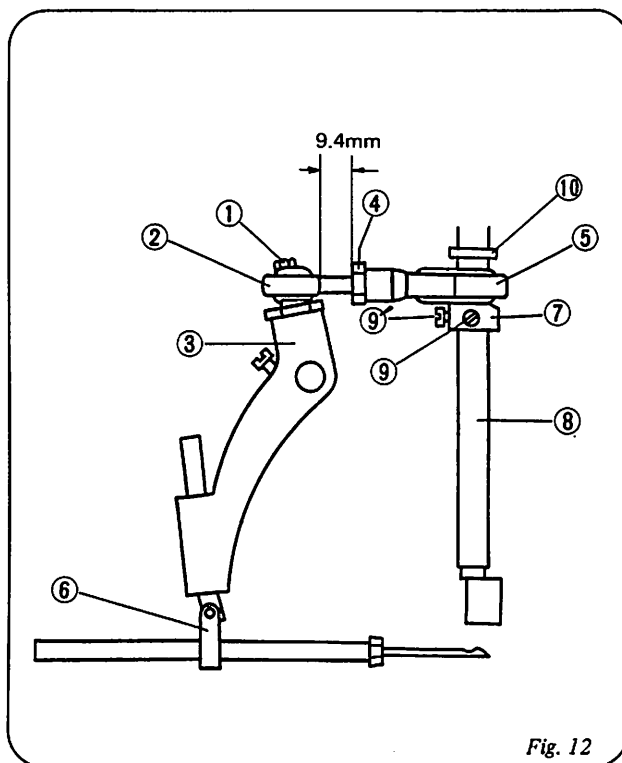
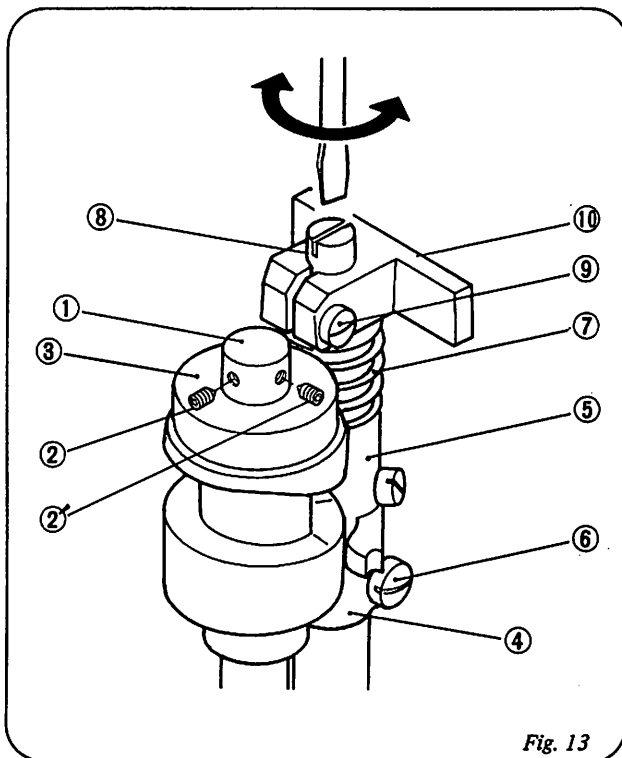

Fig. 12
Fig. 13
For replacement or adjustment of Ball Rod, refer to Fig. 12.
The position of Needle is adjusted so that the distance between the point of Needle (at its highest position) and Throat Plate is 13 mm, after loosening screw on Needle Bar Connection Assembly ⑥ in Fig. 12.
- ① Screw 11/64S40089
- ② Rod End 6APOS8
- ③ Needle Bar Lever 242051A
- ④ Nut 1N8
- ⑤ Connecting Rod Assembly 242011A
- ⑥ Needle Bar Connection Assembly 242101A
- ⑦ Eccentric Cam (part of Connecting Rod Assembly) 242011
- ⑧ Main Shaft 241101
- ⑨ ⑨ Screw 11/64S40001
- ⑩ Spacer 241161
Adjust Looper Drive Cam ③ when necessary as follows: (Refer to Fig. 13.).
- a) Apply the Screws ② and ② on the taper of Main Shaft ①.
- b) Adjust Arm (B) ④, so that Looper Drive Cam ③ and Arm (A) ⑤ move smoothly. After adjusting, fix the Screw ⑥ tightly.
- c) The clearance between Looper Drive Cam ③ and Arm ⑤ is effected by Spring ⑦. Loosen Screw ⑨ and turn Spring Supporter ⑧ to adjust the pressure of Spring ⑦. After adjusting, tighten the Screw ⑨ to fasten Spring Supporter ⑧.
- ① Main Shaft 241101
- ② ② Screw 15/64S28524
- ③ Looper Drive Cam 243012
- ④ Looper Rocker Shaft Arm (B) 243081
- ⑤ Looper Rocker Shaft Arm (A) 243071
- ⑥ Screw for Looper Rocker Shaft Arm (B) 11/64S40009
- ⑦ Spring 243131